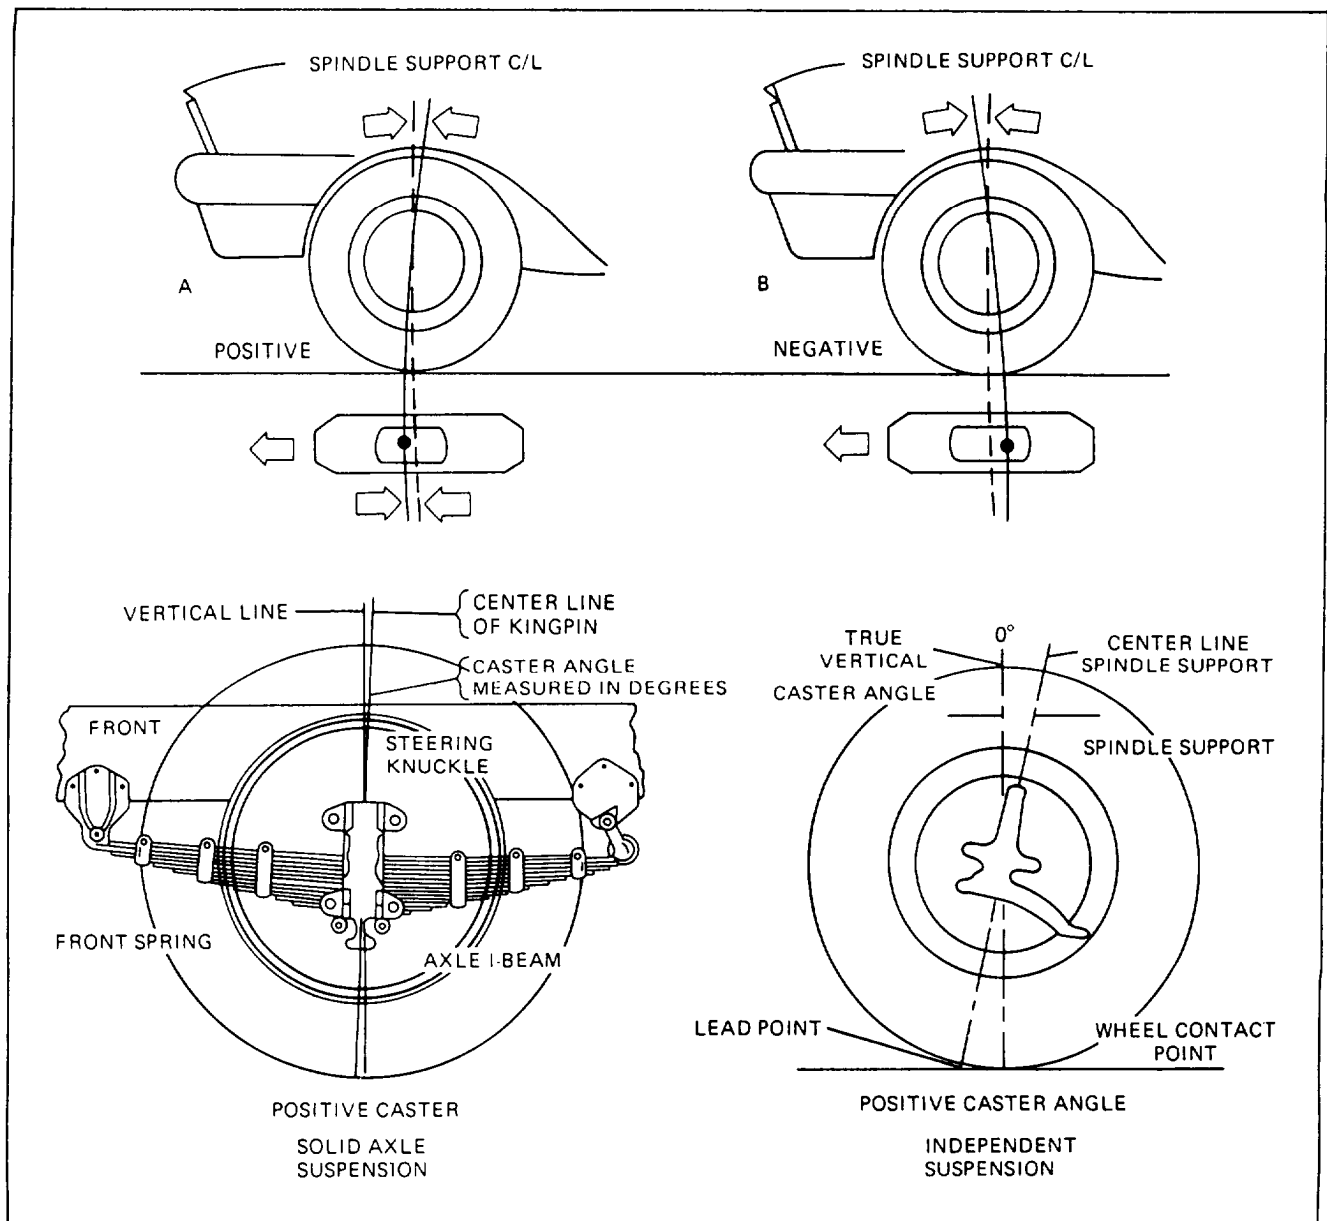

Figure 12-2.—Caster angle.
**2. CASTER ANGLE.** When viewed from the side of the wheel, the caster angle is the degree to which the kingpin or ball joint tilts forward or rearward in relation to the frame (fig. 12-2). Like the camber angle, the caster angle is also measured in degrees. It is shown by a line drawn straight up and down, as in figure 12-2, and then a second line drawn through the center of the kingpin or pivot points. The caster angle is the angle formed at the point where the two lines cross, as viewed from the side of the vehicle.